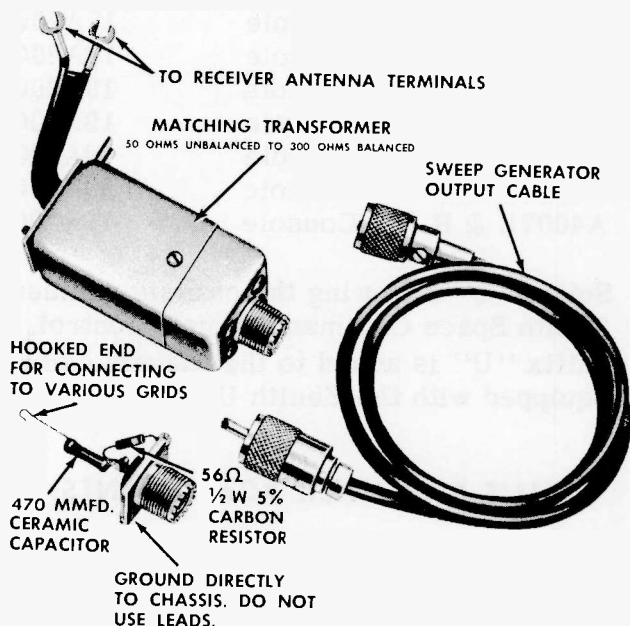
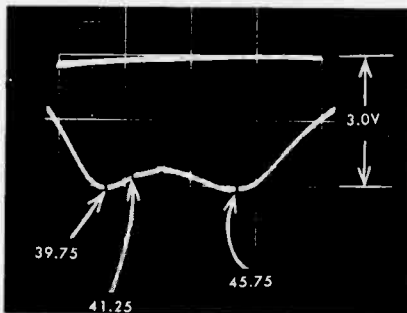

Fig. 5 IF-RF Alignment Fixtures.
Fig. 10 4th IF Response.
4. Connect the sweep generator through a terminating network (Fig. 5) to the grid (pin 1) of the third IF.
3. Feed the sweep generator through the special termination network shown in Fig. 5 to point "G" (Pin 1 of 6BZ6, 3rd IF). Adjust generator to obtain a response similar to Fig. 10 with a detector output of 3 volts peak to peak. Do not exceed this level during any of the adjustments.
4. Set the marker generator to 45.75 Mc and alternately adjust the top and bottom cores of the 4th IF for maximum gain and symmetry with the 45.75 Mc marker positioned as shown in Fig. 10. The 39.75 Mc